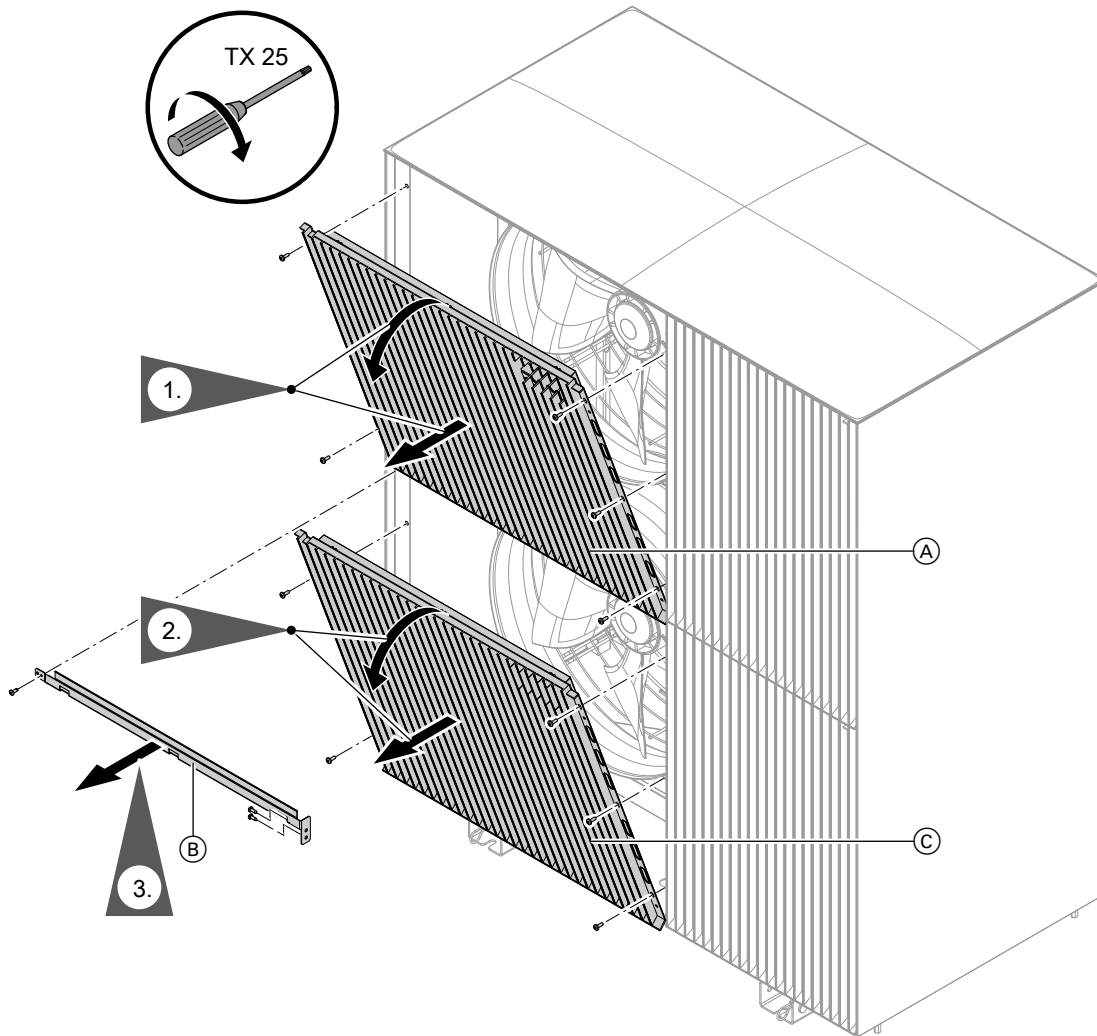

Fig. 107
3. Remove fan grilles and reinforcing strut: See Fig. 107.